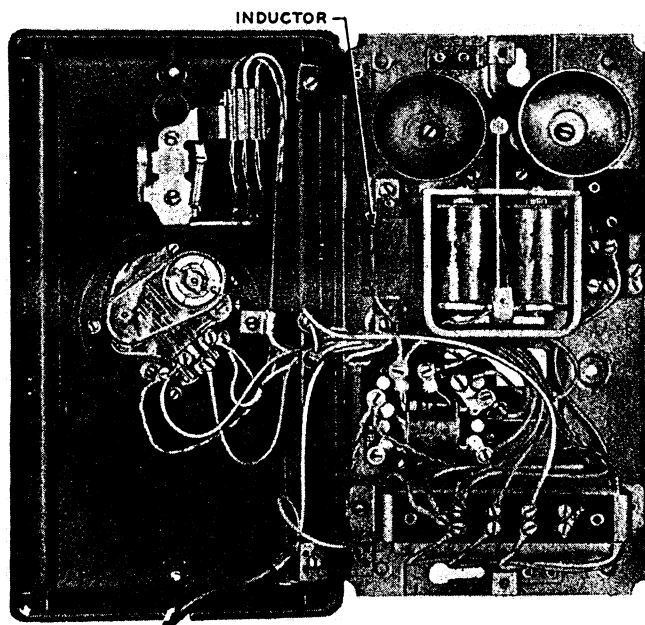

Fig. 15 — 357C Telephone Set — Interior
- The 357-type telephone set is used at local battery talking, common battery signaling stations (see Fig. 15).